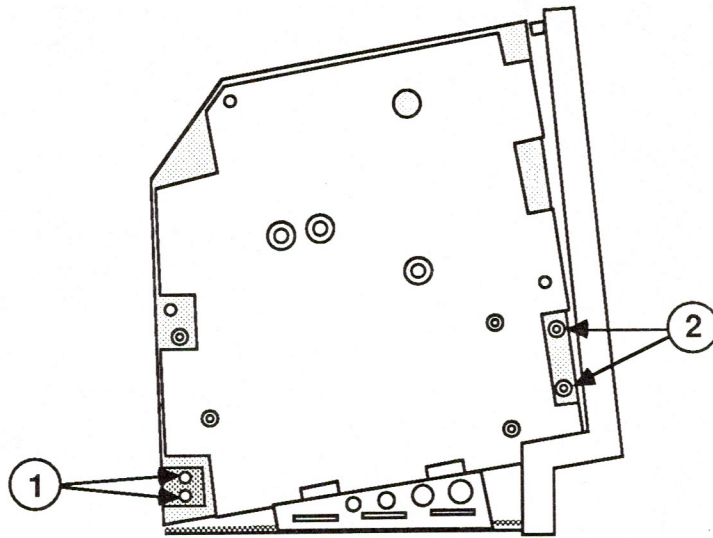

FIGURE 6
6. Using the small Phillips screwdriver, remove the two lower left analog board screws and the metal clip (Figure 6, #1).
7. Remove the two lower right analog board screws (Figure 6, #2).